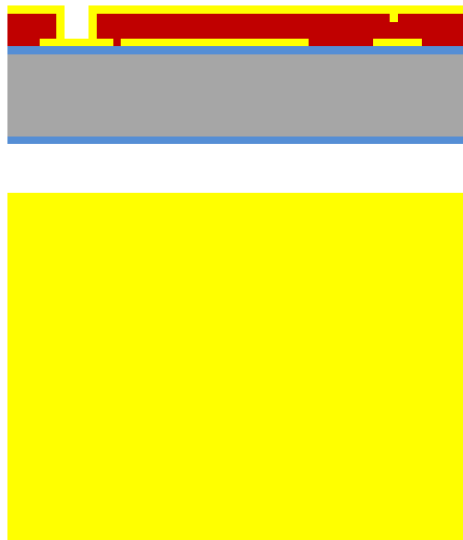

Figure 8 Sample coated in 20-30 nm of chromium and 150-200 nm of gold after DC sputter deposition.
a. DC Sputter (**Lesker Sputterer**) deposition of metal (**Figure 8**):